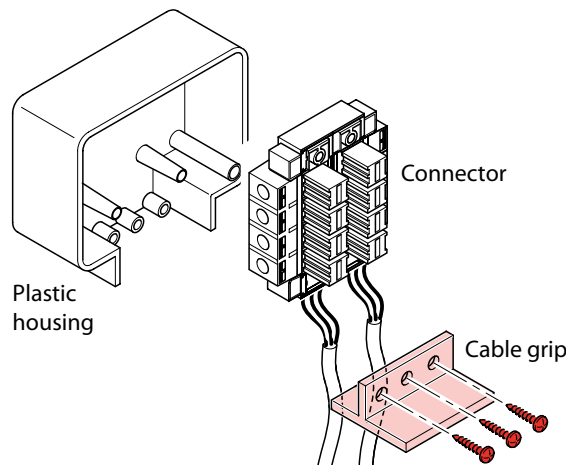

Fig. 6.
2. Insert the connector into the plastic housing and secure it using the screws supplied. Secure the wires to the housing using the cable grip (see fig. 6).